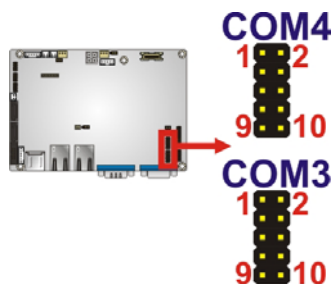

Figure 3-16: RS-232 Serial Port Connector Location
- CN Location:** See Figure 3-16